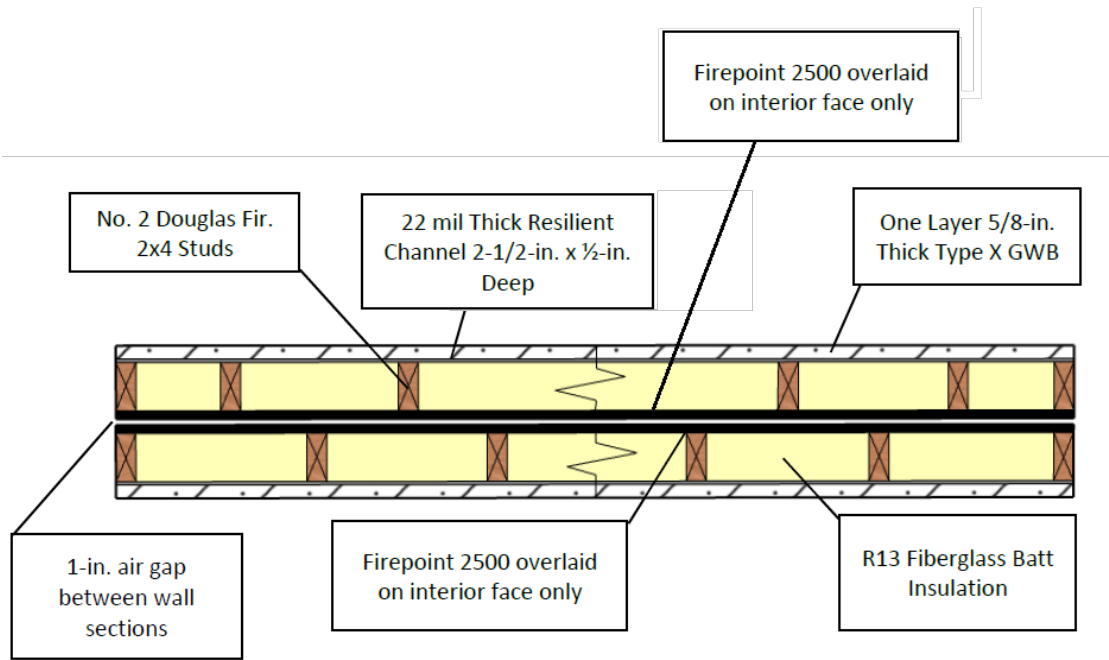

FIGURE 1 – ASTM E119 INTERIOR PARTY WALL ASSEMBLY FOR SECTION 4.4.6
4.4.6.1 The symmetrical wall assembly must be constructed as follows (See Figure 1):